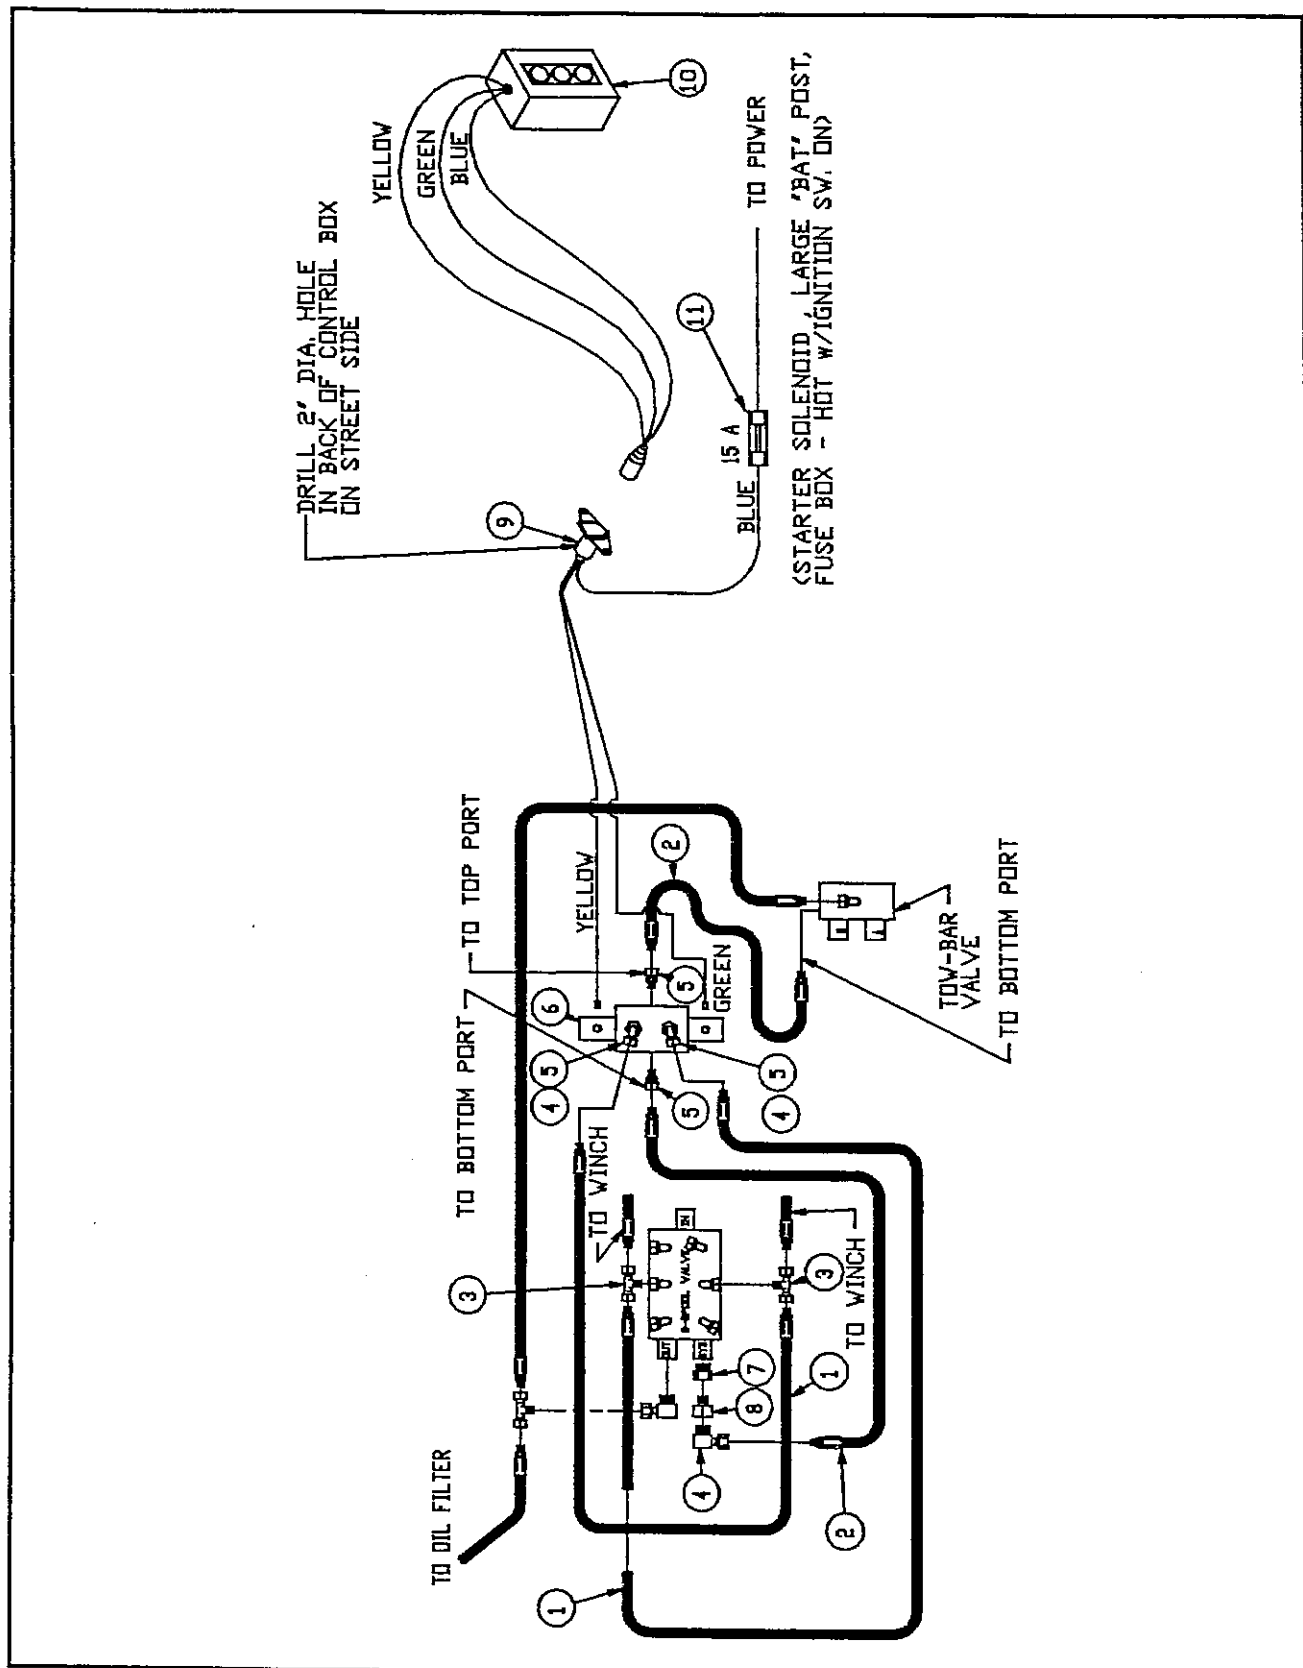

FIG. 4-65 REMOTE CONTROL WINCH INSTALLATION
4-20.2 If your unit is not plumbed for the tow-bar, install a "BYD" adapter, a 3/4" x 1/2" pipe bushing, and 90° 1/2" male pipe x 1/2" female pipe swivel in the "BYD" port of the three spool valve. (See FIG. 4-65, items 7, 8 & 4)
4-20.3 Attach one end of a 1/2" hydraulic hose (FIG. 4-65, item 2) to the "BYD" fittings just installed. Attach one end of another 1/2" x 35" hydraulic hose (FIG. 4-65, item 2) to the bottom port of the single spool valve for the tow-bar.
4-20.5 Install two 90° 1/2" male pipe x 1/2" female pipe swivel fittings in the o-ring adapters just installed in the top ports of the solenoid valve. Position the elbows to point toward the side of the valve using the bottom port. (See FIG 4-65, item 4, 5)
4-20.6 Match drill and mount the solenoid valve (FIG. 4-65, item 6) to the sub-frame side panel between the valve control rods and the rear bumper with the 90° fittings pointing forward. The mounting location must allow connection of the hose (item 2) from the "BYD" port of the three spool valve and the hose (item 2) from the tow-bar single spool valve.
4-20.7 Attach the three spool valve "BYD" hose to one side port of the solenoid valve and connect the tow-bar hydraulic hose (if applicable) to the other side port. (See FIG. 4-65, items 2) If your unit does not have a tow-bar, run the this hose to the "T" in the "OUT" port of the three spool valve.
4-20.8 Remove the two winch hydraulic hoses from the three spool valve. Install a "Tee" 1/2" male pipe x 1/2" female swivel x 1/2" female swivel in each of the 90° fittings on the three spool valve (See FIG. 4-65, item 3). Position the "Tee" to point forward and back. Reconnect each winch hydraulic hose to the back side of the "Tee" located in the three spool valve port each hose initially plumbed to. Install one 1/2" x
48" hydraulic hose (See FIG. 4-65, item 1), to each of the two remaining front ports of the "Tee" fittings. Route the hose of each "Tee" around to the opposite side of the three spool valve, and attach the open end of each hose to the 90° fittings on top of the solenoid valve. It does not matter which hose is connected to which of the two 90° fittings on top of the solenoid valve.
4-20.9 Connect the fuse end of the blue 14 gauge wire (See FIG. 4-65, item 11) from the battery terminal of the starter solenoid, or an ignition terminal of the fuse box to the rear drivers side control panel. Follow the same routing to the rear bumper as the hydraulic hoses and seven conductor cable in the left hand frame. Make sure there are 24" of slack between the chassis frame Z-plate and the sub-frame three spool valve. Anchor the wire to a hydraulic hose at the three spool valve.